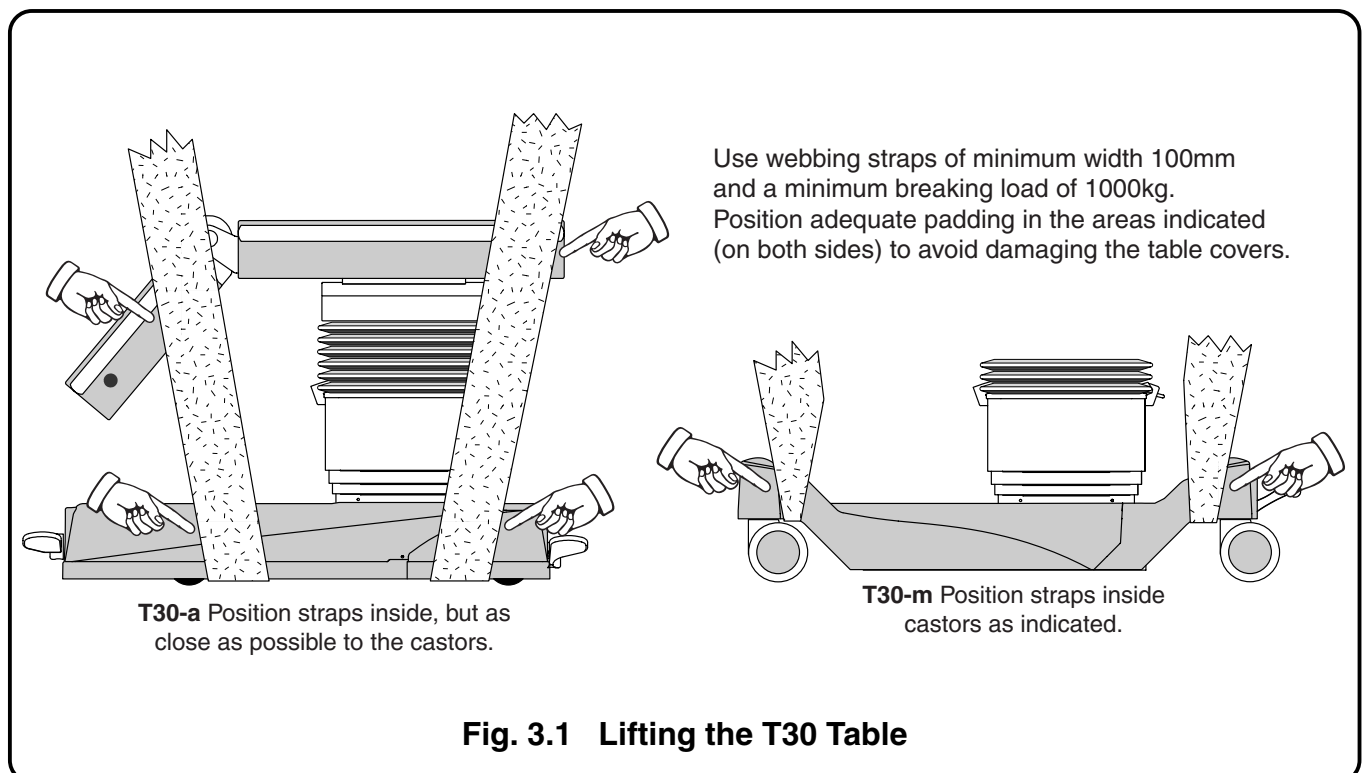

Fig. 3.1 Lifting the T30 Table
3.2.2 If required the T30 Table should only be lifted by placing suitable webbing straps underneath the table base in the positions indicated in Fig. 3.1 (having placed the T30-a Table into its 'castor' orientation to increase ground clearance) and observing the notes that follow.
3.2.4 Before lifting remove all tabletop sections, accessories and mattresses, to minimise the weight to 242.7kg* (T30-a Table) or 190.7kg* (T30-m Table). Place the tabletop into a level plane in both directions (i.e. tilt and Trendelenburg) as shown in Fig. 3.1. Lower the short trunk and tabletop to their maximum limits.